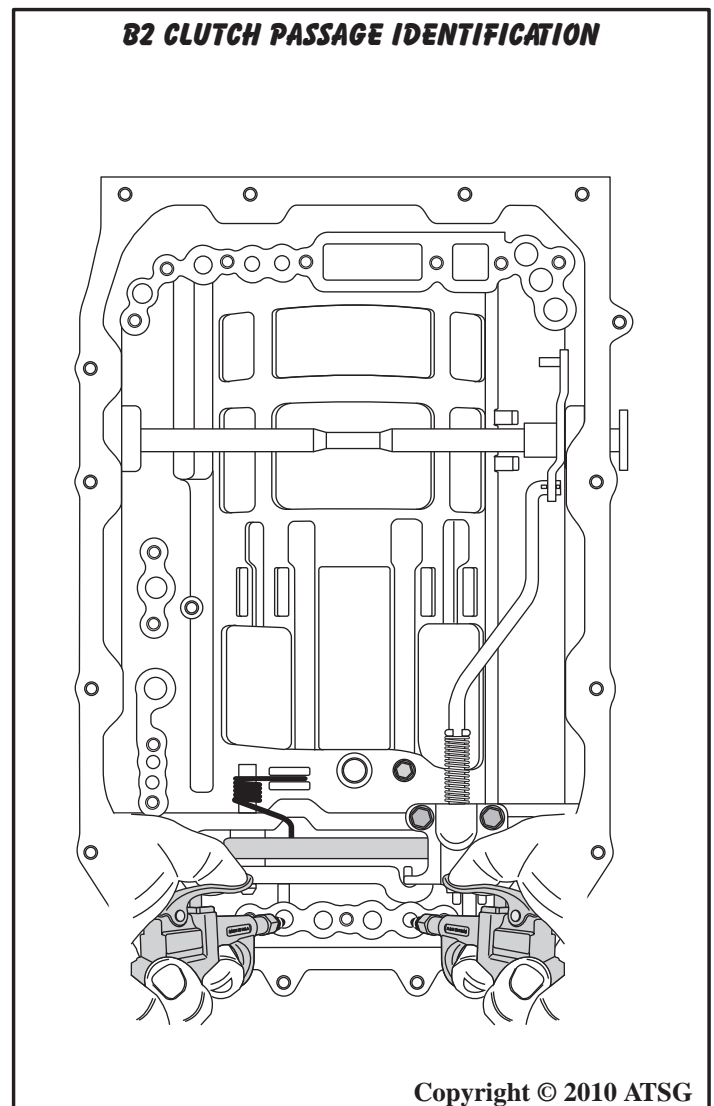

Figure 76
**Note: There are two passages to the B2 clutch piston that can be charged with air to loosen the piston, as shown in Figure 76.**